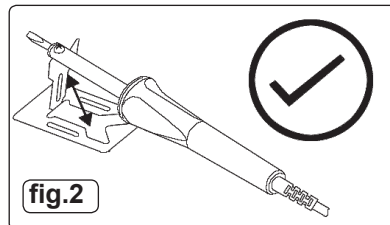

fig.2
4.1.2. **Preparing the iron stand.** Before using the soldering iron, set up the metal stand by bending the centre section upwards so that it is nearly vertical to the rest of the stand as shown in fig.2. Rest the soldering iron on the stand. Plug the iron into the mains and switch on leaving the iron on the stand to heat up.